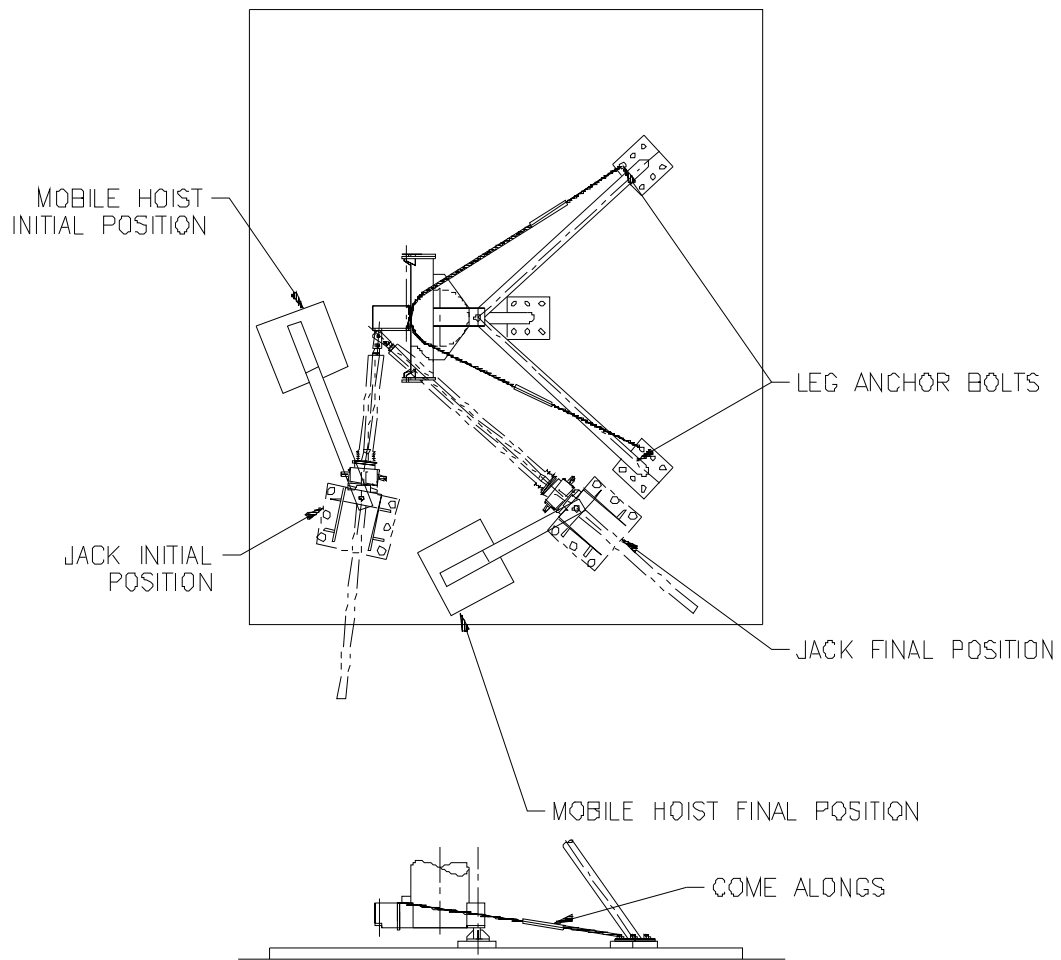

Figure 12. Azimuth Jack Drive Assembly Repositioning
- Step 4.** Using two (2) 4,000 lb. capacity come-alongs, tie the pedestal to the two opposing leg anchor bolts to prevent motion when azimuth jack is disconnected. Use the inside anchor on one leg as not to interfere with the mounting of the jack on the back pad.
- Step 5.** Move the mobile hoist to the initial position, as shown in Figure 12.